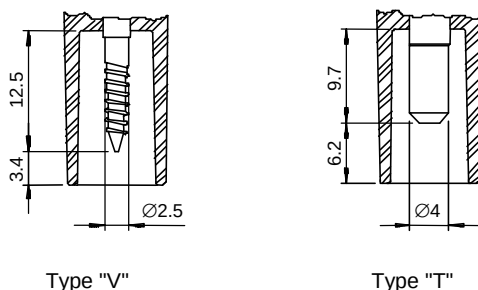

Fig. 4
- V: screw fixing system (Fig. 4);
T: fixing system with terminal Ø 4 (Fig. 4);
The connection of high voltage cables can be of two types, according to the terminals used inside the isolators: connections can be executed by means of a screw or of a cylindrical terminal with 4 mm diameter, as shown in Fig. 4. Cables with different lengths and terminations can be supplied upon request.